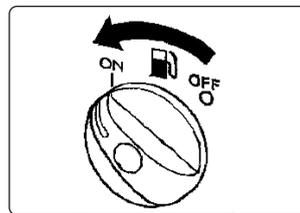

fig.7
- 6.3.3. Turn the fuel Knob to "ON" fig.7.